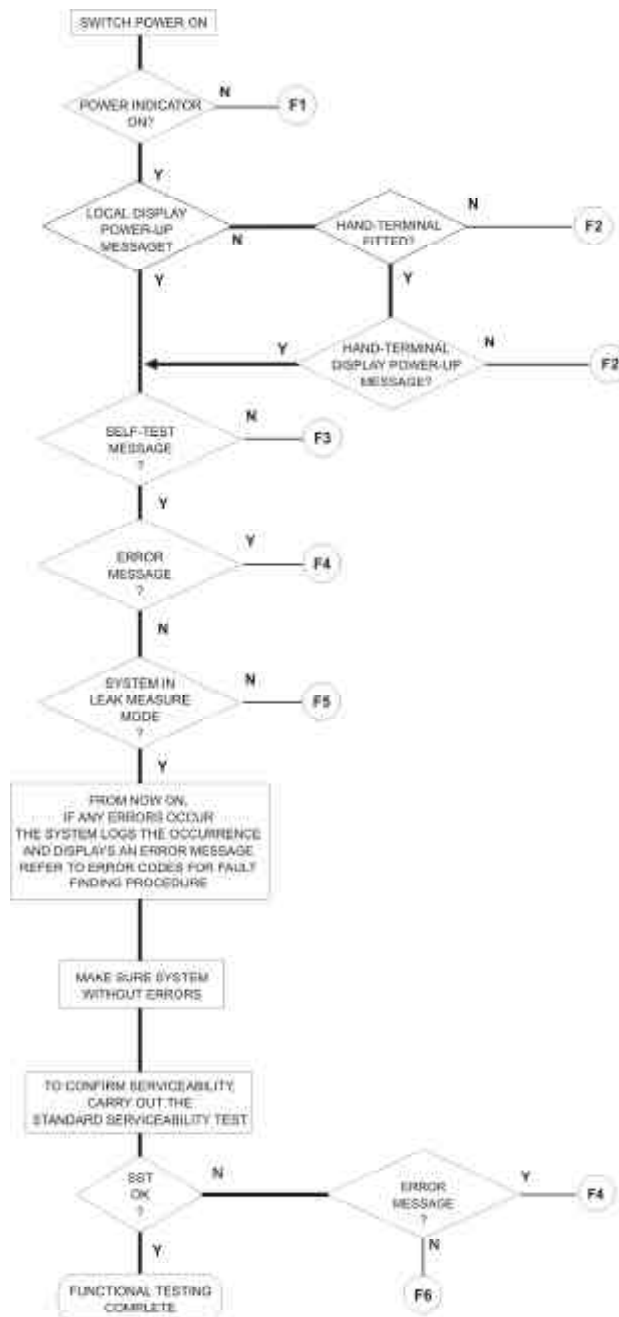

FIGURE 5-1 FAULT FINDING CHART
- If a fault occurs, refer to the fault location chart, Figure 5-1 and Table 5-1 for possible fault causes and recommended action.
## On-screen Assessment (Figure 5-1)